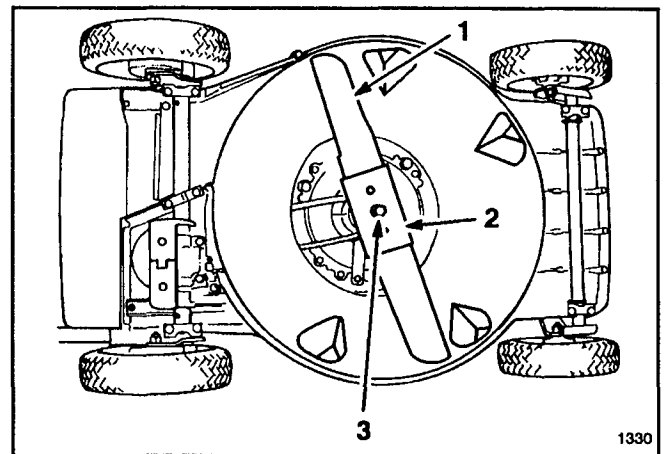

Figure 26
6. Tip mower on its left side (Fig. 26). Avoid rotating blade as starting problems may result.
8. REMOVING BLADE—Grasp end of blade using a rag or thickly padded glove. Remove blade bolt, lock washer, blade and blade stiffener (Fig. 26).